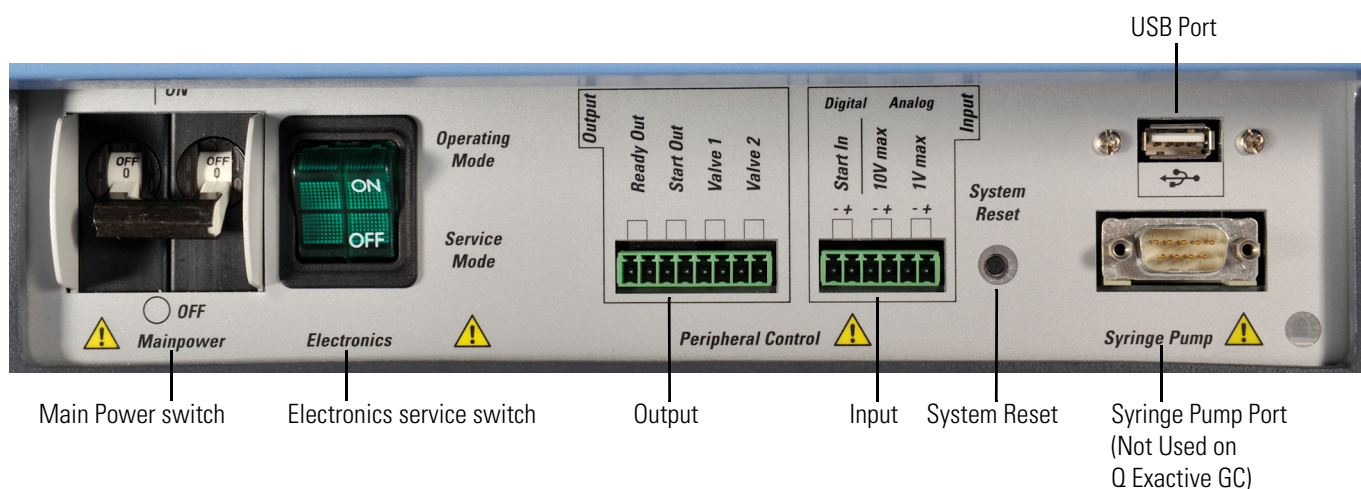

Figure 3-4. Power panel
The *main power circuit breaker switch* (labeled Main Power) is located on the power panel at the left side of the mass spectrometer. See Figure 3-4. In the Off (O) position, the circuit breaker removes all power to the mass spectrometer, including the vacuum pumps. In the On (I) position, power is supplied to the mass spectrometer. In the standard operational mode, the circuit breaker is kept in the On (I) position.
The *electronics service switch* is located on the power panel. See Figure 3-4. In the Service Mode position, the switch removes power to all components of the mass spectrometer except the vacuum system. In the Operating Mode position, power is supplied to all components of the mass spectrometer.